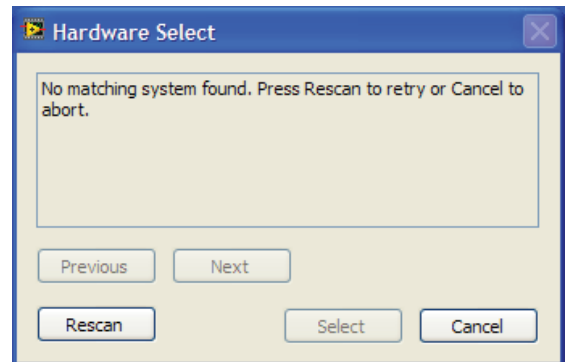

Figure 10. Pop-Up Window Error
2. If the SDP board is not connected to the USB port when the software is launched, a connectivity error displays (see Figure 10). Simply connect the evaluation board to the USB port of the PC, wait a few seconds, click **Rescan**, and follow the instructions.